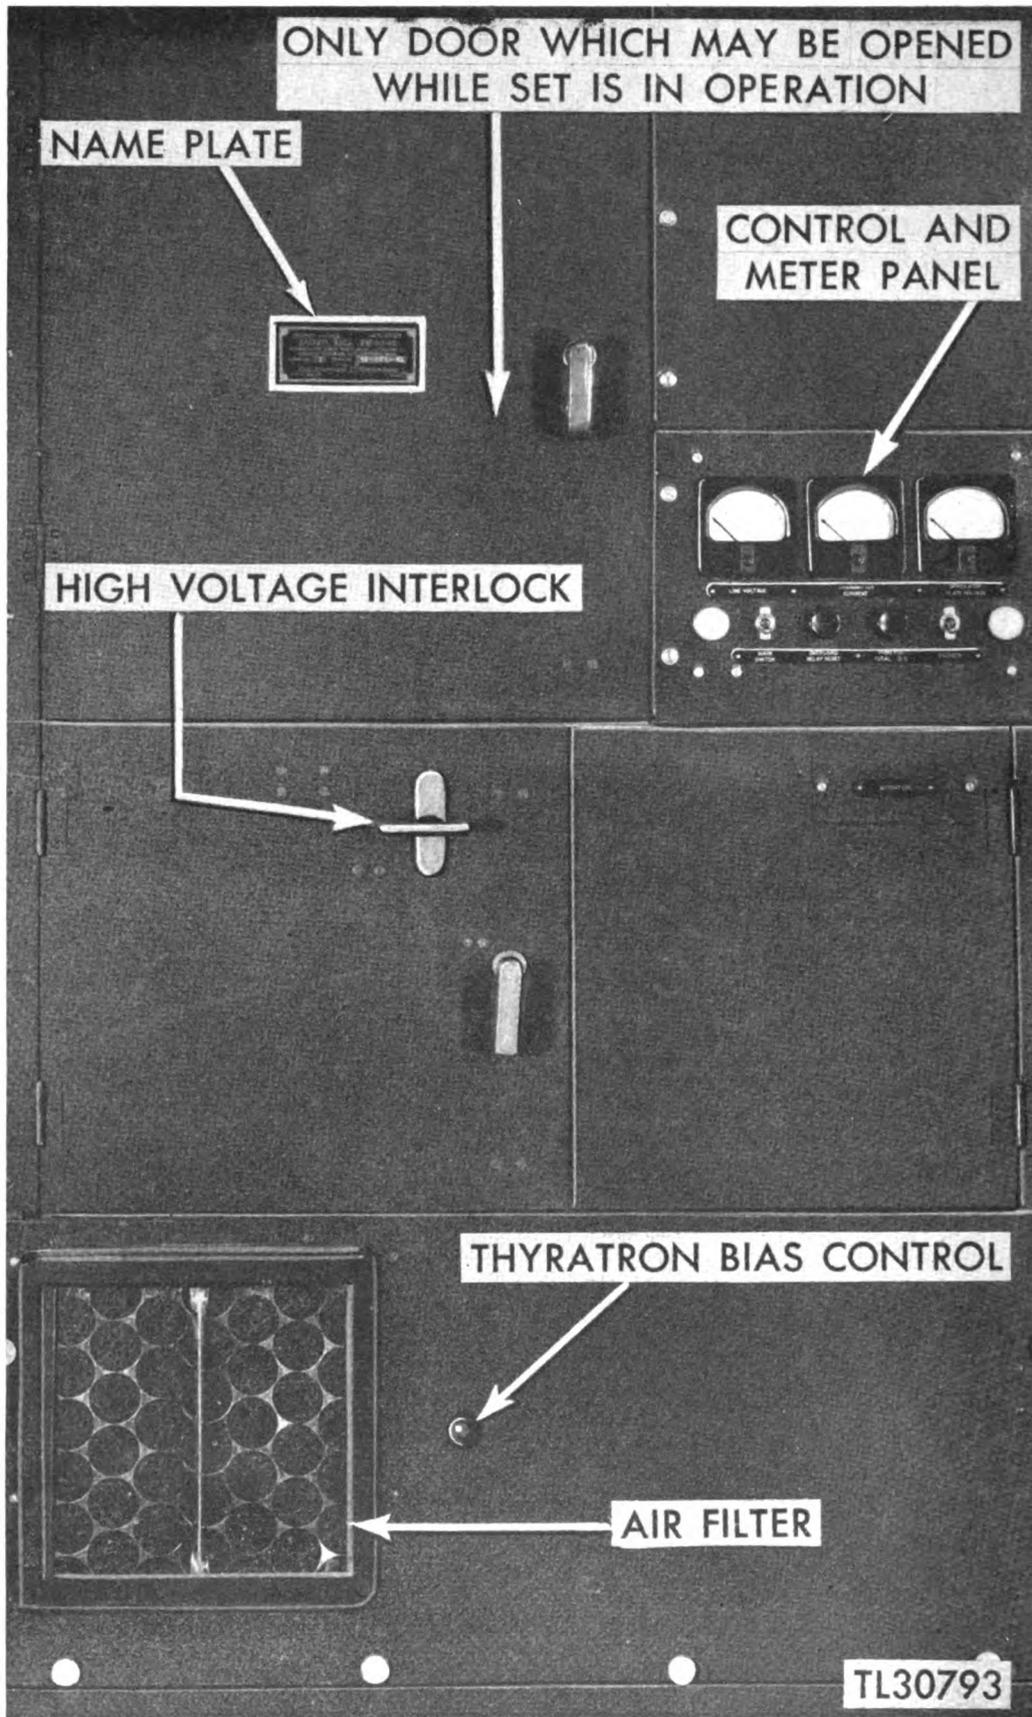

Figure 64. Transmitter cabinet.
**LOCATION.** The air filter is located on the front of the transmitter cabinet at the bottom left corner (fig. 64).